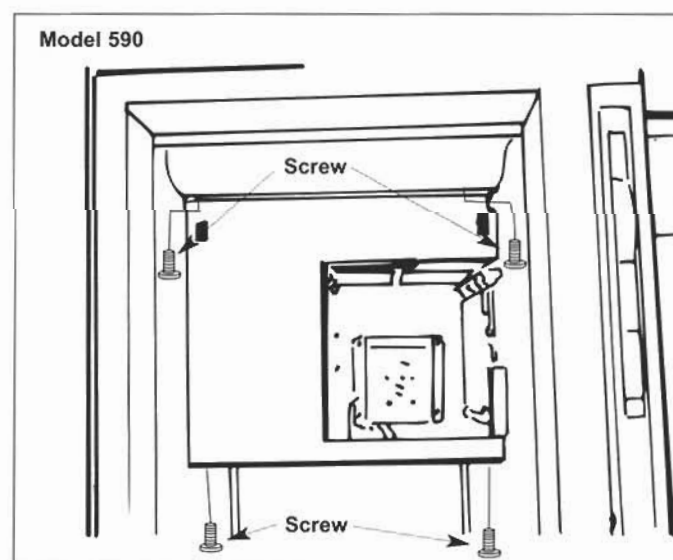

Figure 2-45. Evaporator Cover Removal
2. Remove the front evaporator cover (Figure 2-45). It is secured with two screws on top and two screws on the bottom.